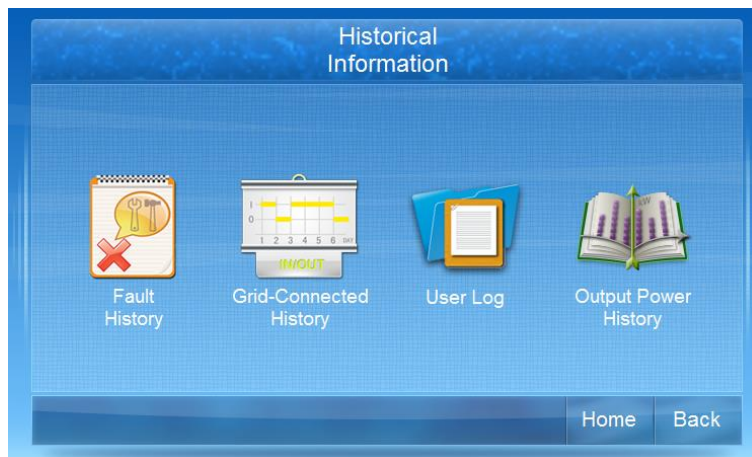

Figure4-19 “History information” page
Step 3 Click “historical information” icon to enter **Historical Information** page, as shown in Figure4-19.